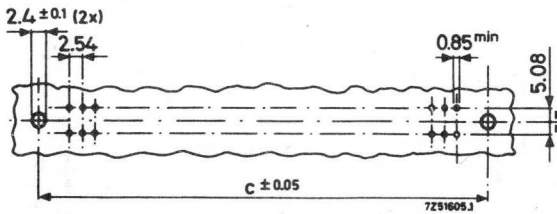

Fig. 6
1. Apply the hole pattern in the panel as given in Fig. 6.